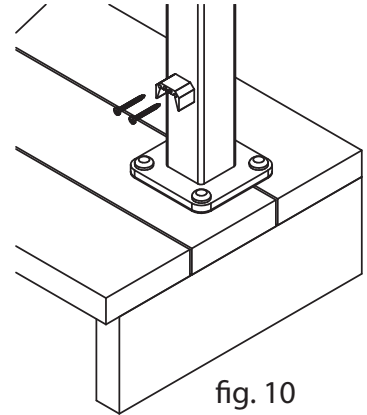

fig. 10
**6) Mount RCBs** (fig.10): Identify the RCB (Rail connection block) pre drilled holes on the installed posts. Install the RCB with two #10 x 1-3/4" pan head Tek screws. The flanges on the Rail Connection Block should be facing down.